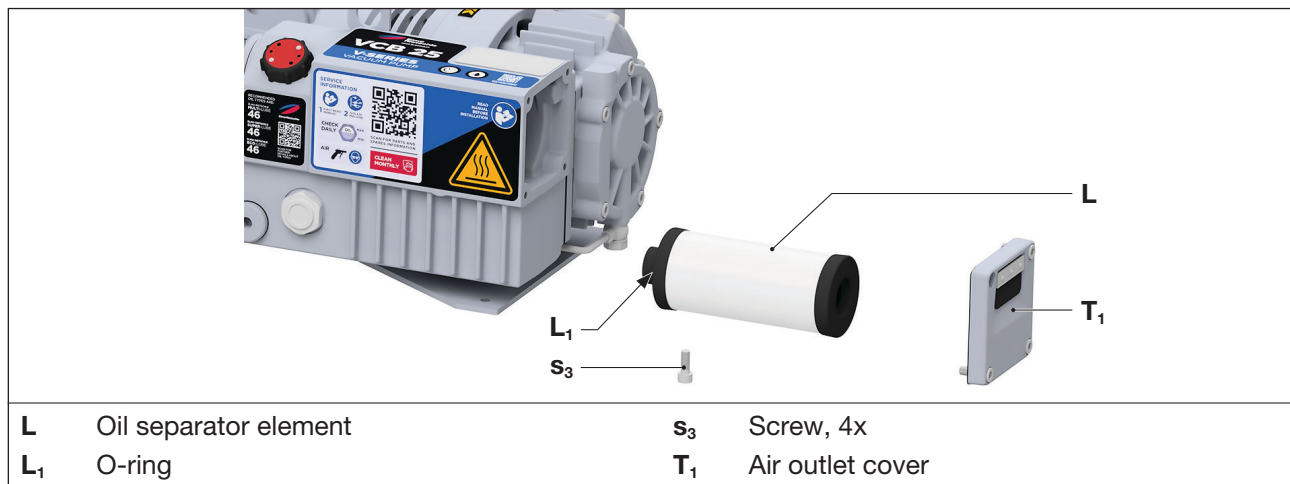

Fig. 7 Oil separator element
- Undo the screws (Fig. 7/S₃) on the air outlet cover (Fig. 7/T₁) and remove the cover (Fig. 7/T₁) with the gasket.
- Undo the oil separator element (Fig. 7/L) with a hexagonal wrench (size 10) and replace it.
- Lightly oil the O-ring (Fig. 7/L₁) of the new oil separator element (Fig. 7/L) and insert the oil separator element into the oil separator housing.
- Reassemble the air outlet cover (Fig. 7/T₁) with the gasket and secure it with the four screws (Fig. 7/S₃). Tightening torque: 10 Nm